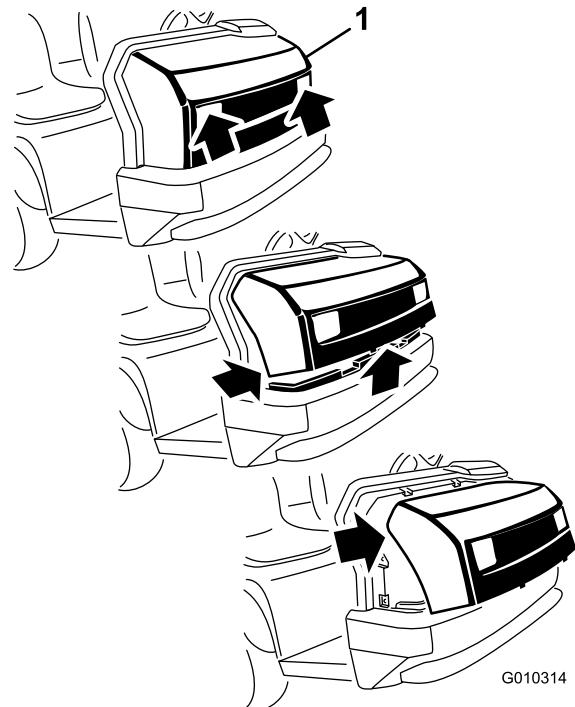

Figure 27
1. While grasping the hood in the headlight openings, lift up the hood to release the lower mounting tabs from the frame slots (Figure 27).
2. Pivot the bottom of the hood upward until you can pull the top mounting tabs from the frame slots (Figure 27).
- Pivot the top of the hood forward and unplug the wire connectors from the headlights (Figure 27).
- Insert the top mounting tabs into the frame slots (Figure 27).
- Insert the lower mounting tabs into the frame slots (Figure 27).